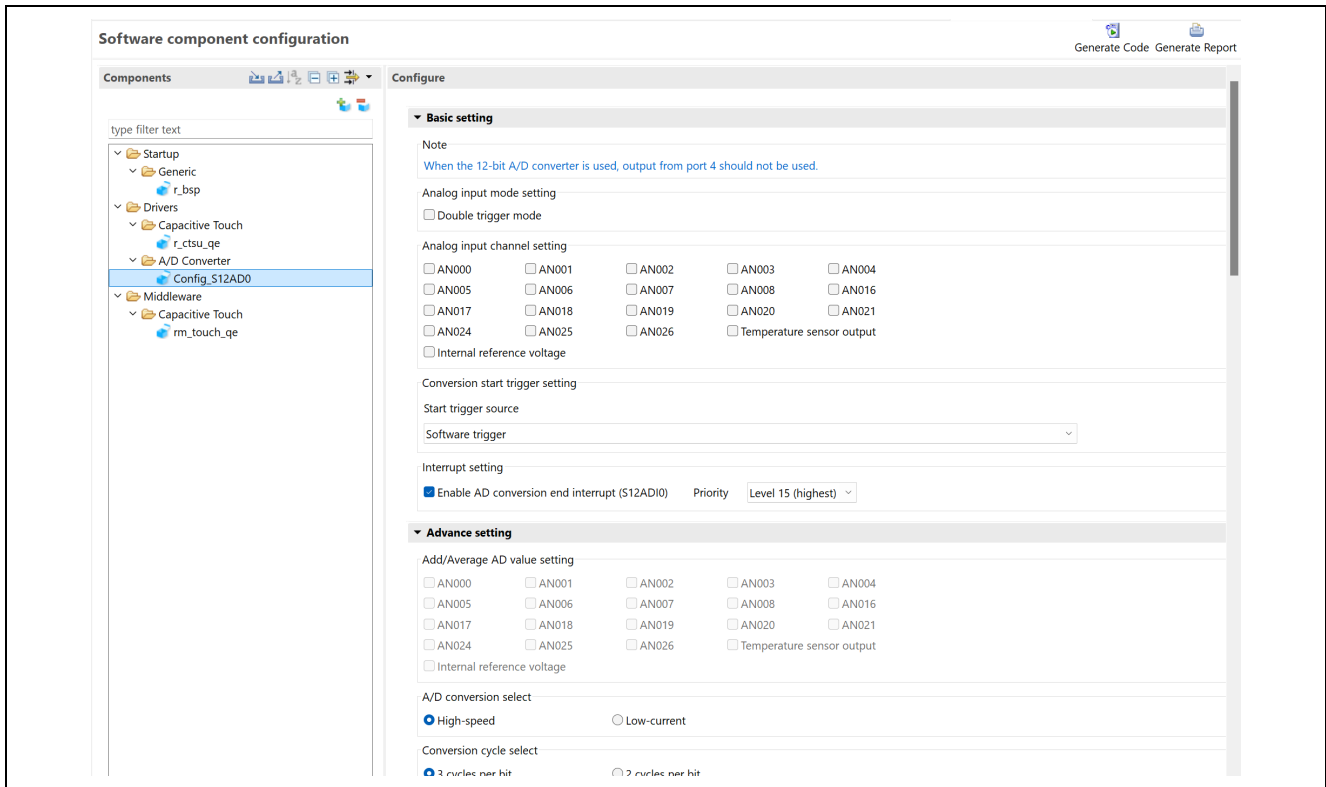

Figure 6-24 Add ADC Drover (RX)
4. Add the ADC driver as shown in Figure 6-24. The ADC pins (ANxxx) do not need to be selected in this step.